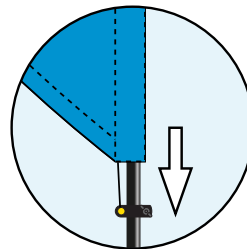

Fig 14.
11. Insert the yellow button on the end of the rope into the cleat on the pole, slide down the pole to tension the flag and tighten the wingnut. (Fig 14)